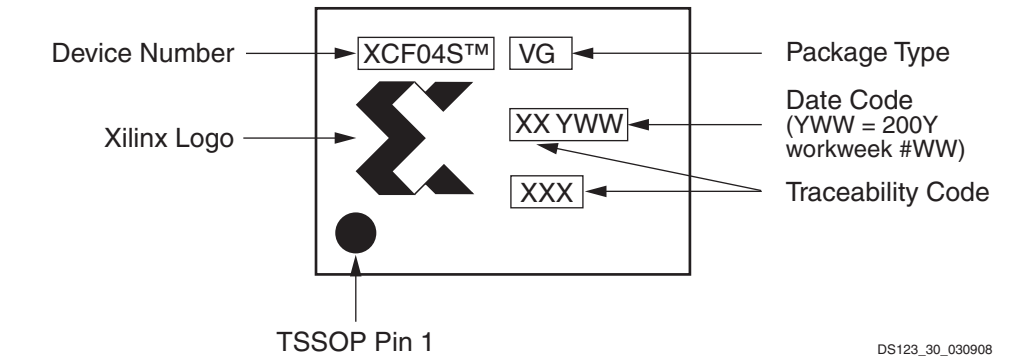
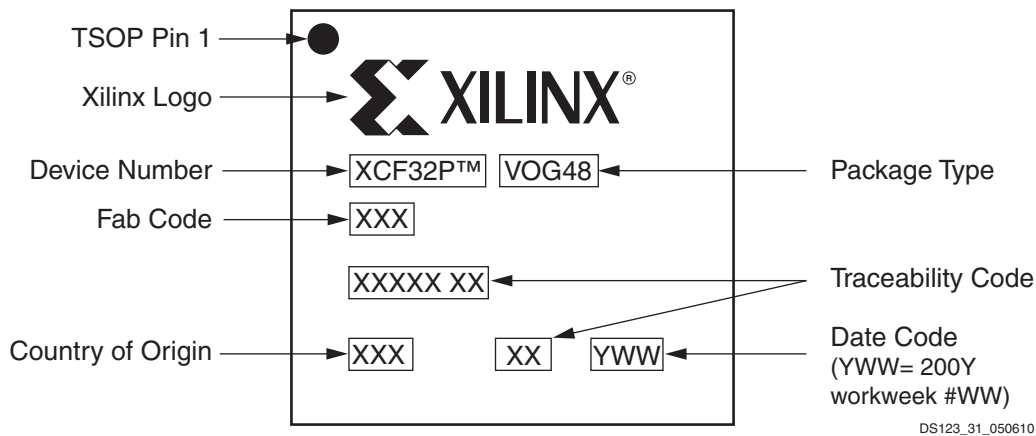
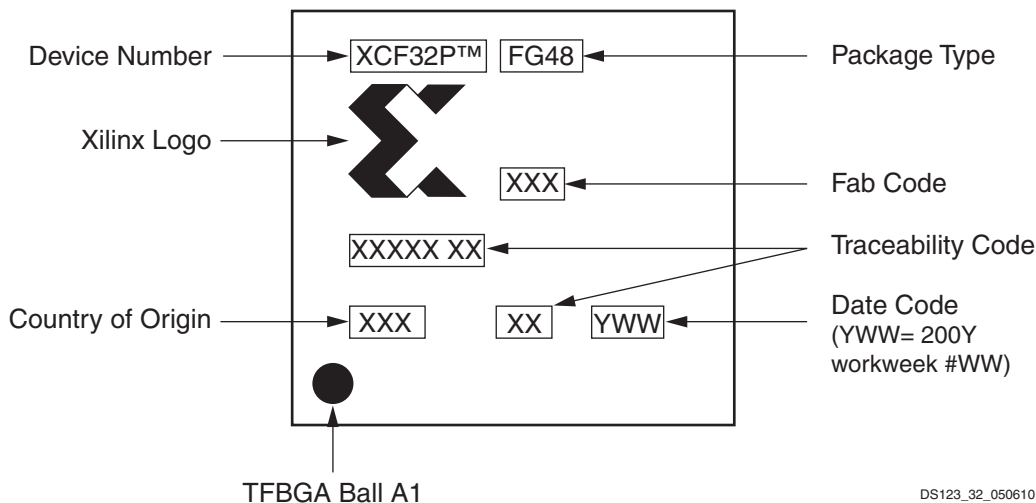

Figure 14: 20-Pin TSSOP Marking
Figure 15: 48-Pin TSOP Marking
Figure 16: 48-Pin TFBGA Marking
Figure 14 through Figure 16 illustrate the part markings for each available package.
**Note:** In Figure 15 and Figure 16, the two-digit traceability code on the bottom line between the country of origin and date code is not present on all devices.